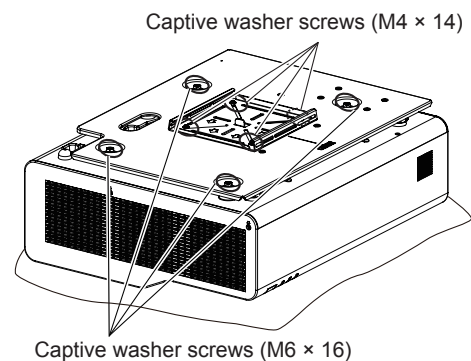

Fig.2
- 6) Place the projector upside down on a soft cloth. (Fig.2)
- 7) Remove the four captive washer screws (M6 × 16) that secure the projector mount bracket kit to the projector. (Fig.2)
- 8) Remove the four supplied captive washer screws (M4 × 14) on the projector mount bracket kit so as to separate the connecting plate from the projector mount bracket. (Fig.2)